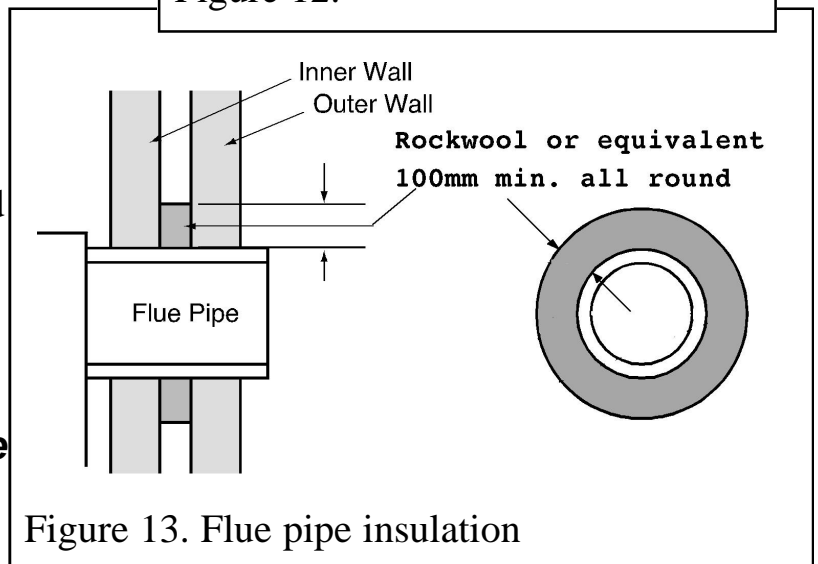

Figure 13. Flue pipe insulation
3. The cavity should be sealed where the flue tube hole has been cut. We recommend filling fully across the cavity with Rockwool or equivalent to at least 100mm around the opening (See figure 13).